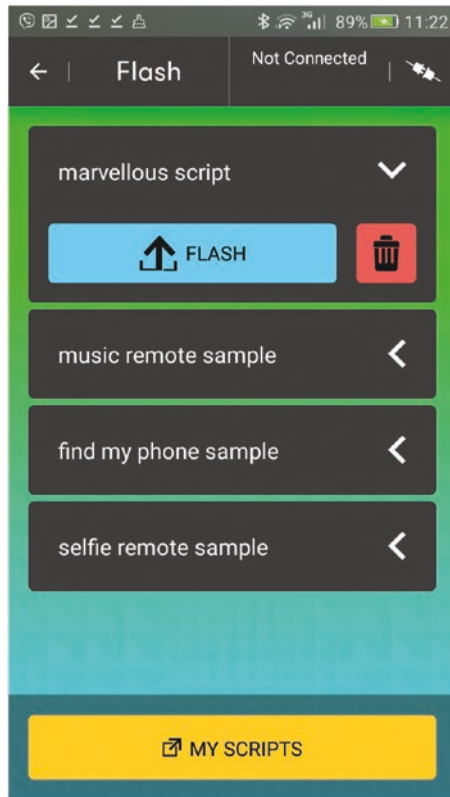

Figure B-14. List of .hex files for flashing
4. Now go to the main page of the micro:bit app and tap the Flash button. The app will show all the downloaded .hex files as a list, so you can flash them to the micro:bit by tapping the FLASH button associated with the file name (i.e., marvellous_script) (see Figure B-14).